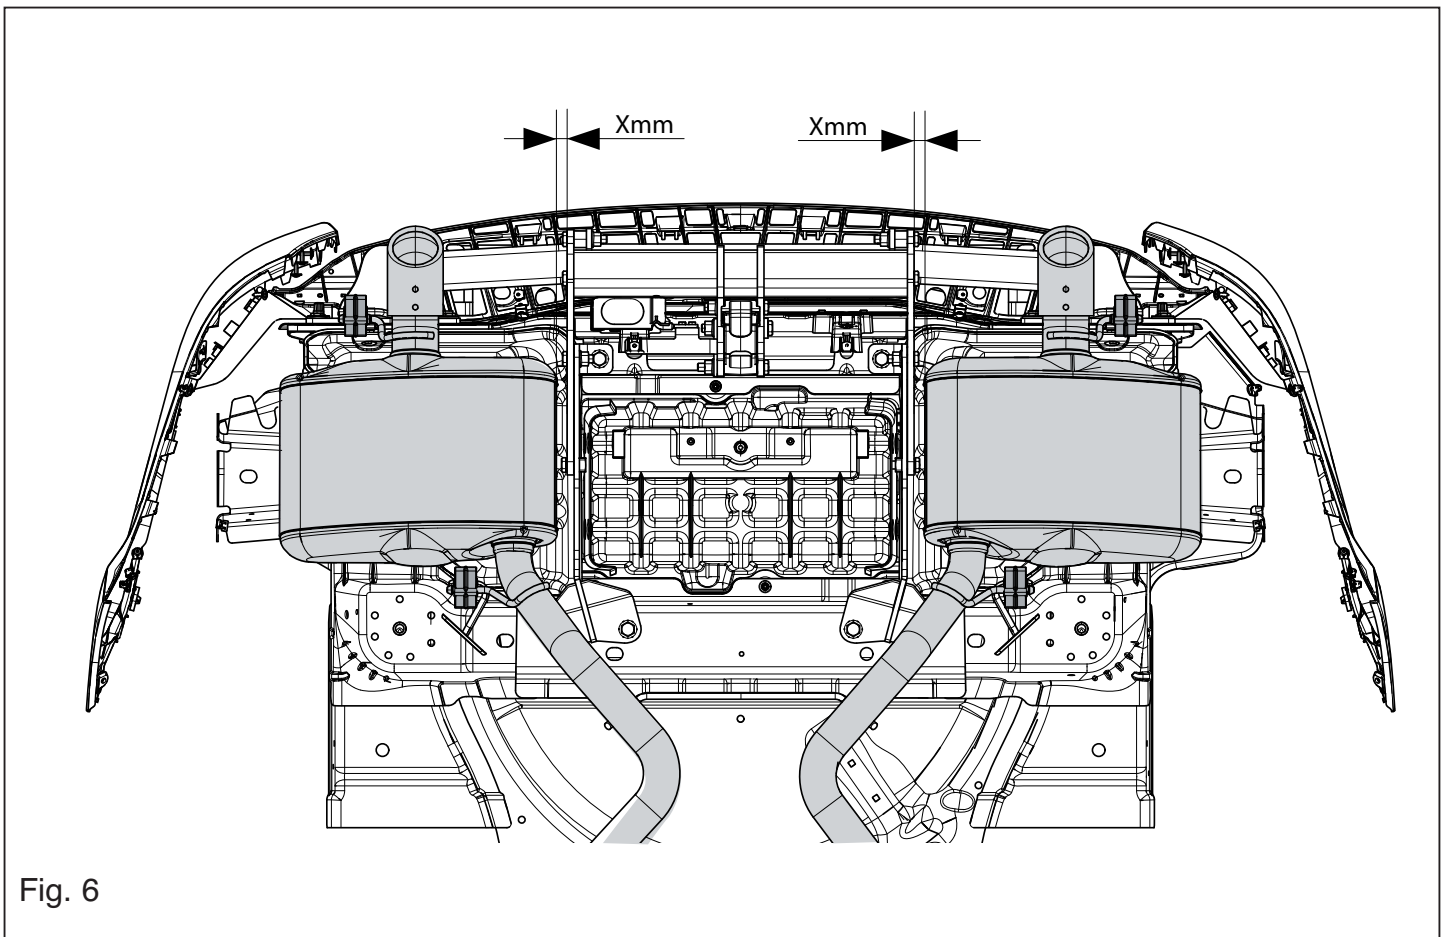

Fig. 6
13. Align the twin exhaust system at the centre. See figure 6.